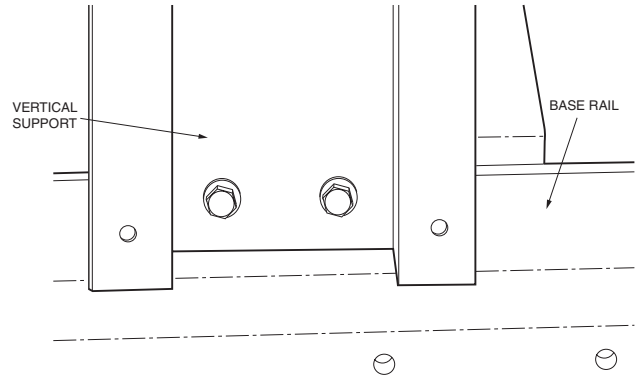

Fig. 6 — Typical Mounting of Vertical Support to Unit Base Rail
2. Install the support bracket(s) to the middle section(s) of the unit using the screws supplied in the accessory package. Holes have been pre-drilled in the base rail of the unit to accept screws where needed. However, holes must be drilled in the necessary unit location(s) for the top of the support bracket. To ensure proper fit, be sure that the support bracket is vertical. Repeat this procedure when additional support brackets are needed. See Fig. 6 and 7.